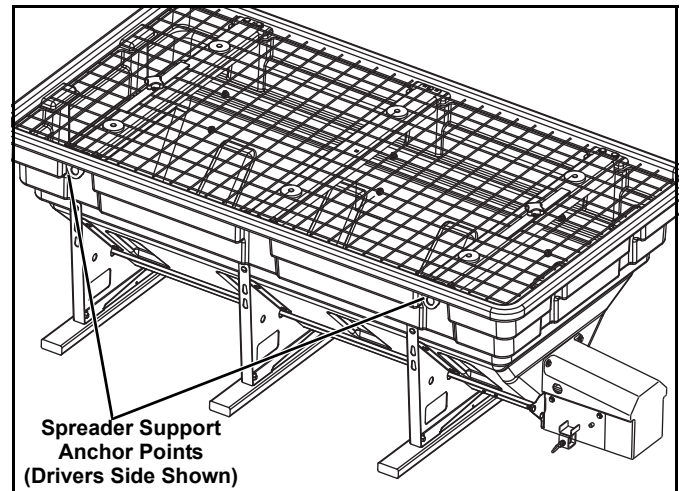

Figure 1-12
2. Using suitable tie-down straps or chain, secure the spreader to the vehicles factory installed anchor points using two tie-down brackets on each side of the spreader hopper (See Figure 1-12).